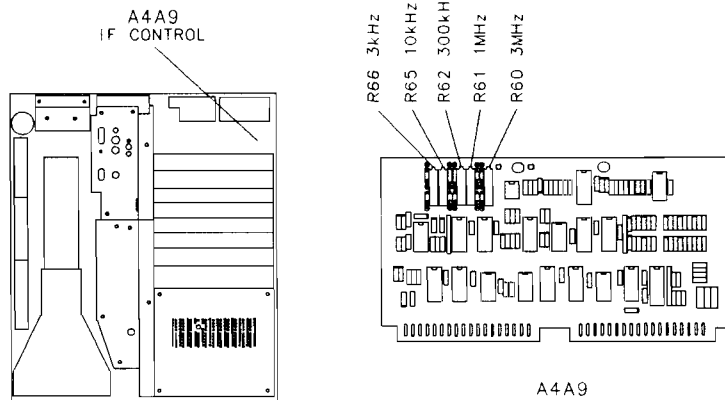

Figure 4-8. Location of Bandwidth Adjustments
Procedure	1. Position the instrument upright and remove the top cover. 2. Set the LINE switch to On and press (2-22 GHz). 3. Connect CAL OUTPUT to RF INPUT. 4. Key in (CENTER FREQUENCY) 100 MHz, (FREQUENCY SPAN) 5 MHz (RES BW) 3 MHz, and (LIN). 5. Press (REFERENCE LEVEL) and adjust the DATA knob to place the signal peak near the top CRT graticule. The signal should be centered about the center line on the graticule. 6. Press (PEAK SEARCH), MKR → (CF), and MARKER (Δ). 7. Using the DATA knob, adjust the marker down one side of the display signal to the 7.3 dB point; CRT MKR Δ annotation indicates 0.430 X 8. Adjust A4A9R60 3 MHz for MKR (Δ) indication of 1.5 MHz while maintaining the marker at 0.430 X using the DATA knob. Refer to Figure 4-8 for the adjustment location. 9. Press MARKER (Δ). Adjust the marker to the 7.3 dB point on the opposite side of the signal (CRT MKR Δ annotation indicates 1.00 X. There are now two markers; one on each side of the signal at the 7.3 dB point. 10. CRT MKR Δ annotation now indicates the impulse bandwidth of the 3 MHz bandwidth. Impulse bandwidth should be 3.00 MHz ± 0.60 MHz 11. Key in (RES BW) 1 MHz, (FREQUENCY SPAN) 2 MHz, (PEAK SEARCH), and (MKR → CF). If necessary, readjust by pressing (REFERENCE LEVEL) and using the DATA knob to place the signal peak near the top of the graticule. 12. Press MARKER (OFF) then MARKER (Δ).
14. Adjust A4A9R61 1 MHz for MKR Δ indication of 500 kHz while maintaining the marker at 0.430 X using the DATA knob. Refer to Figure 4-8 for the adjustment location.
20. Adjust A4A9R62 300 kHz for MKR Δ indication of 150 kHz while maintaining marker at 0.430 X using the data knob. Refer to Figure 4-8 for location of adjustment.
26. Adjust A4A9R65 10 kHz for MKR **Δ** indication of 5.00 kHz while maintaining the marker at 0.430 X using the DATA knob. Refer to Figure 4-8 for the adjustment location.
32. Adjust A4A9R66 3 kHz for MKR **Δ** indication of 1.5 kHz while maintaining the marker at 0.430 X using the DATA knob. Refer to Figure 4-8 for the adjustment location.